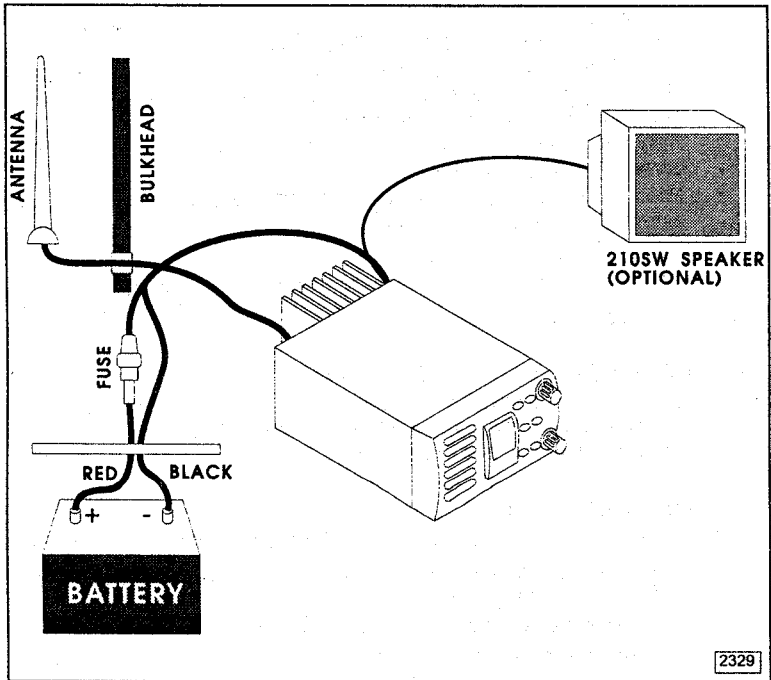

Figure 3. General Installation
- b. Connect the red power cord to a 13.8 VDC \pm 20% power source. Connect the black power cord to negative ground. See Figure 3 for this step.